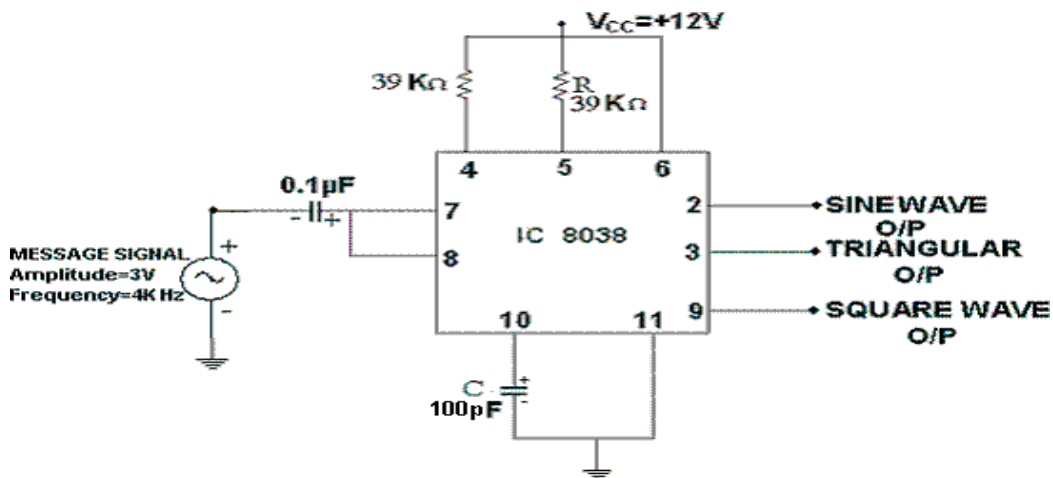

Fig.3.2. FM Modulator Circuit
1. The circuit is connected as per the circuit diagram shown in Fig.3.2